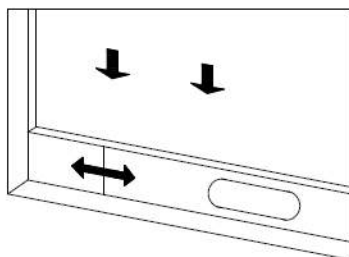
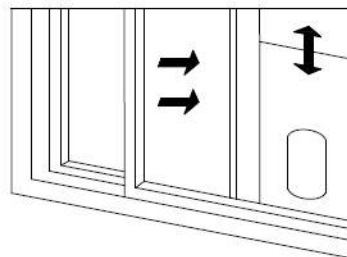

Fig. 2
Fig. 3
5.2.1 Half open the window and mount the window sealing plate assembly to the window (as shown in fig. 2 and fig. 3). Components can be placed in horizontal and vertical direction.